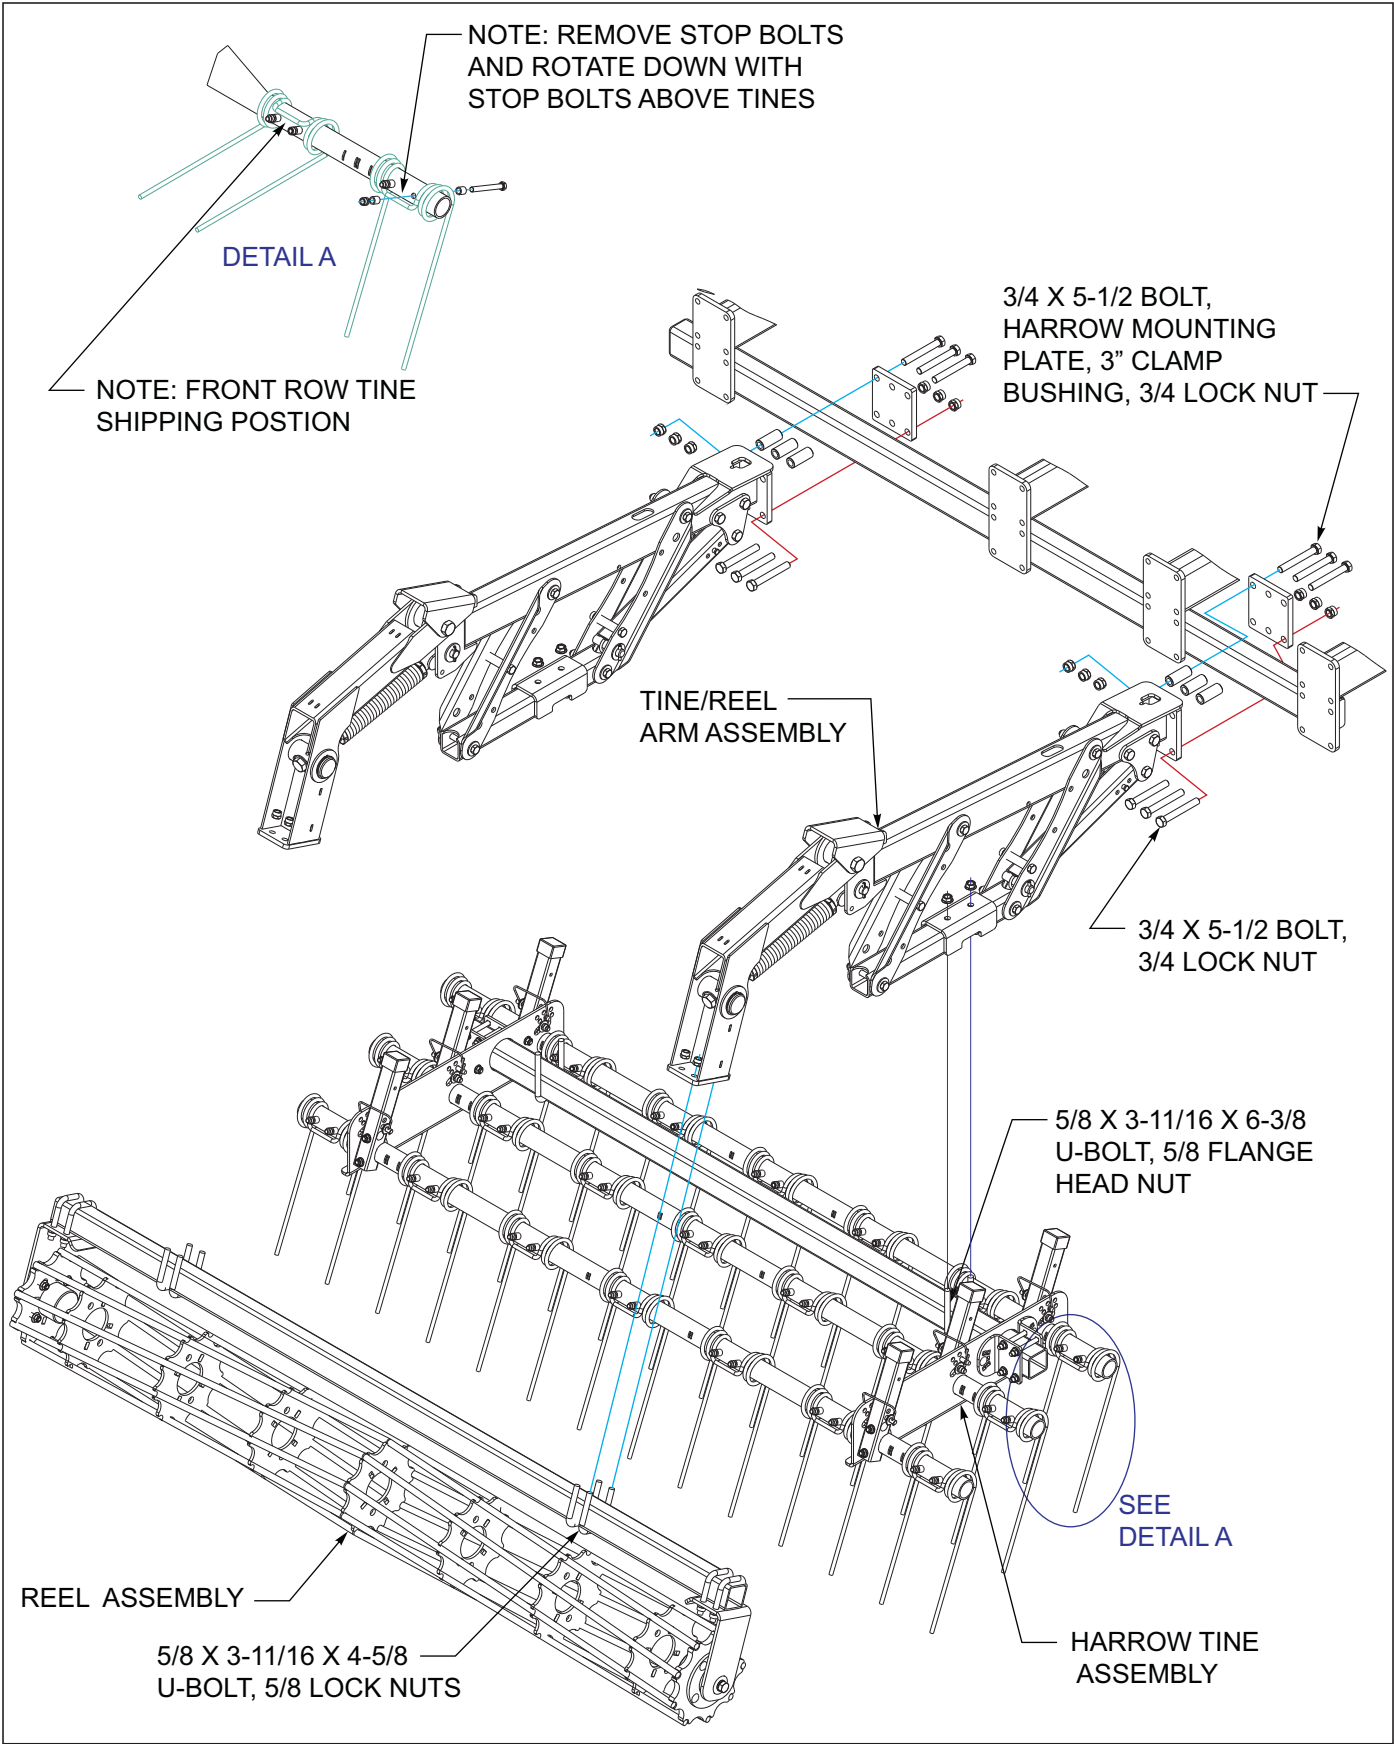

Figure 3-33: 3 Row Coil Tine and Reel Harrow Installation
1. Attach the tine/reel arm assemblies to the rear tube of the center and wing frames using harrow mounting plates, 3/4 x 5-1/2 bolts, clamp bushings and 3/4 lock nuts See Figures 3-33. Clamp bushings are installed on the top mounting bolts.
3. Front row tines are assembled with the tines above the stop bolts to prevent damage when shipping See Figure 3-33 Detail A. Remove front tine bolts and reinstall, with stop bolts above tines.